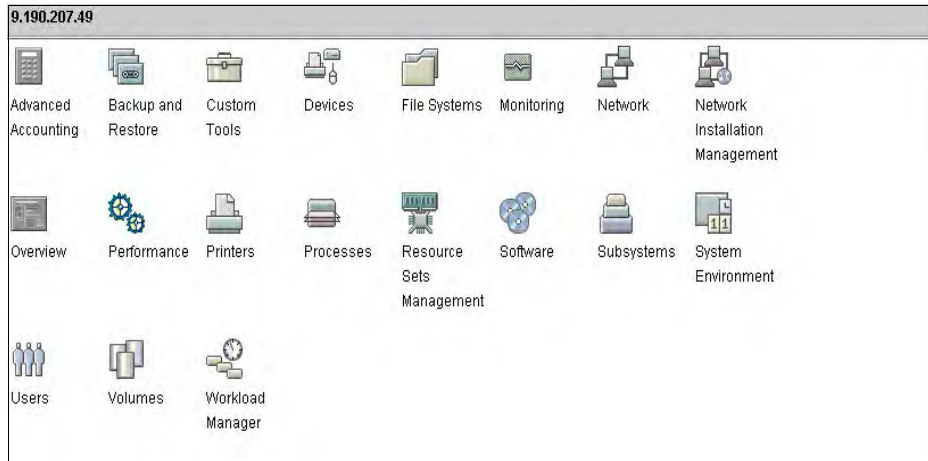

Figure 3-30 Web-Based System Management control panel
2. Start the Web-Based System Management application with the `wsm` command. You will see the screen shown in Figure 3-30 on page 97.
In the navigation area, shown in Figure 3-30, select the NIM container. If you are configuring your NIM master for the first time, you will see the screen shown in Figure 3-31.